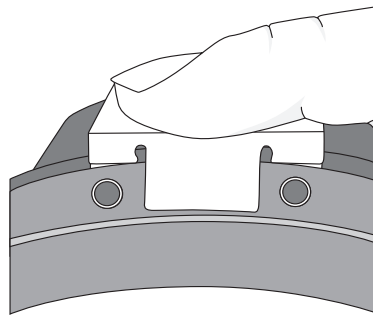

Fig. 5
7. Line up the screw holes on the lock with the screw holes on the M-400 Headgear (Fig. 5).